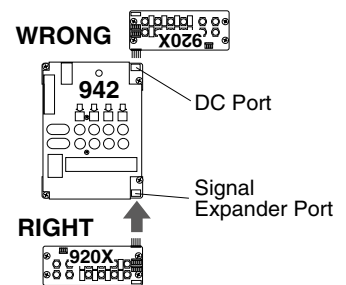

Figure 20. Audio signal expander connection
2. Connect an audio signal expander (if any) such as 920X or 940X to its respective main switching module as shown in Figure 20. It is critical that the signal expanders be connected to the header port on the main module labeled "Expansion." DO NOT plug an audio signal expander module to the header port labeled "DC Expansion."